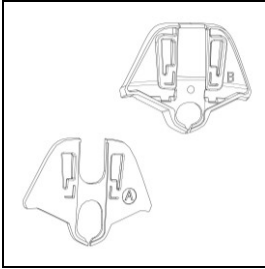

Fig. 1
- Select the adaptor suitable for your helmet's shell (Fig. 1).